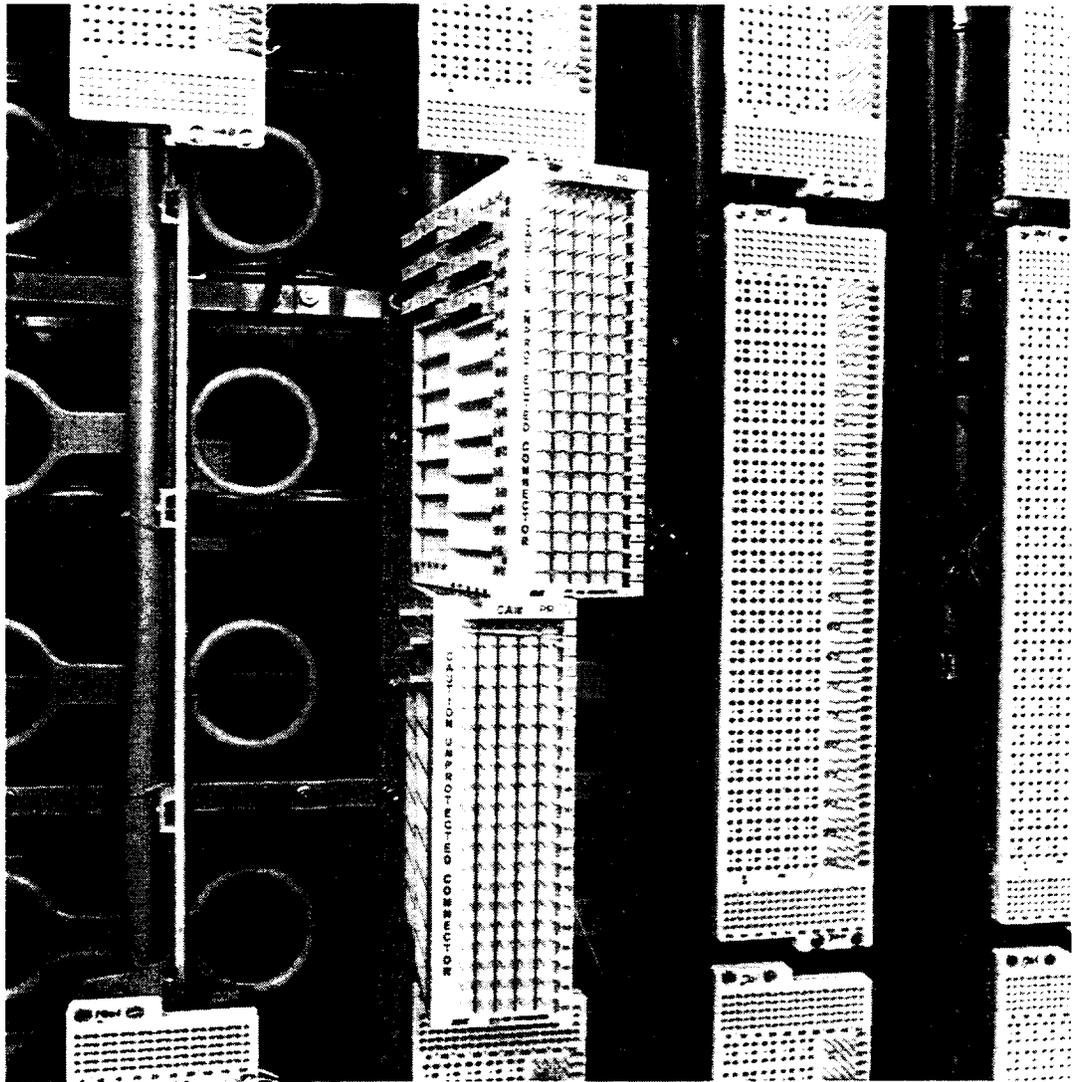
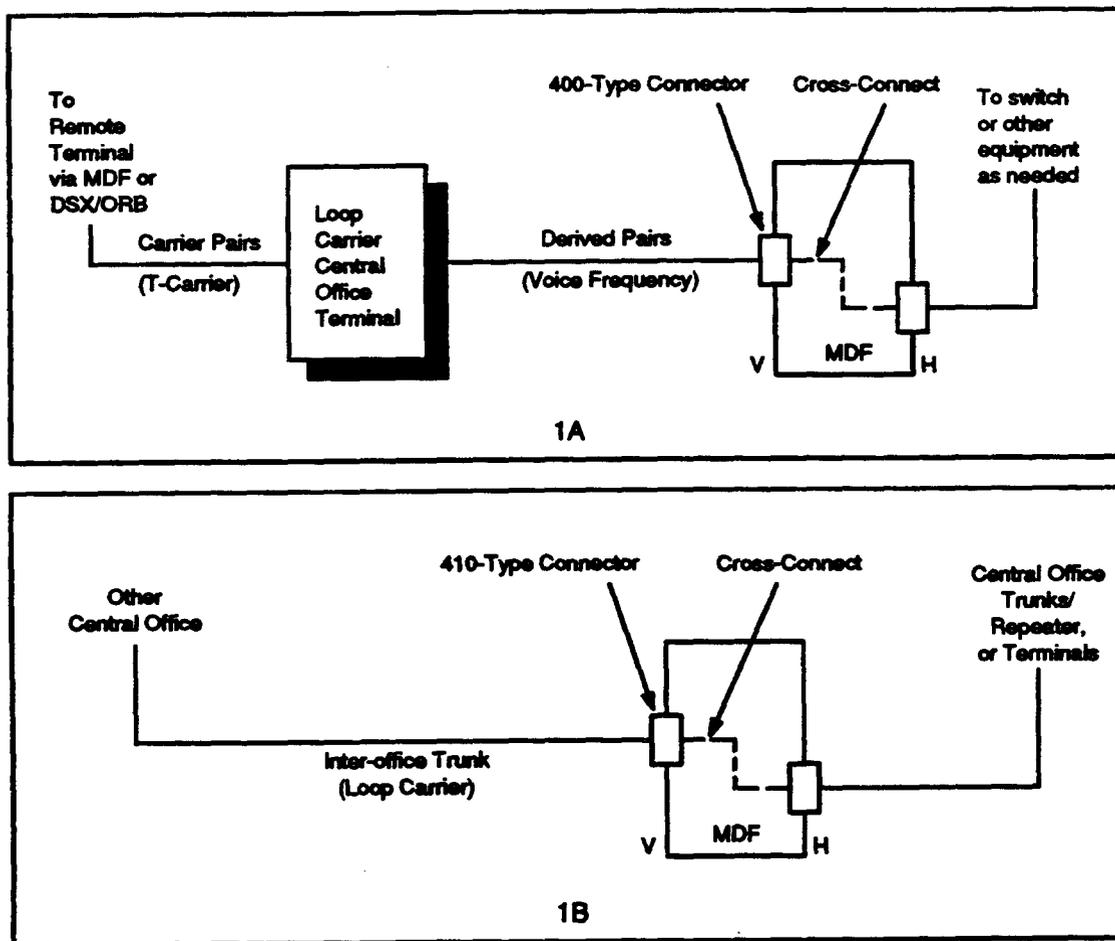

Figure 1. High Density 410 and Angled 410M Unprotected Connectors
Figure 2. Typical Application with Digital Loop Carrier System
1.06 These high density unprotected connectors are used for terminating and cross-connecting circuits on the Main Distributing Frame (MDF). They are ideal for termination of loop carrier terminals and/or derived pairs from pair-gain systems (Figure 1). A schematic, showing protected loop terminal application and derived pair terminations for pair gain systems, is shown in Figure 2.